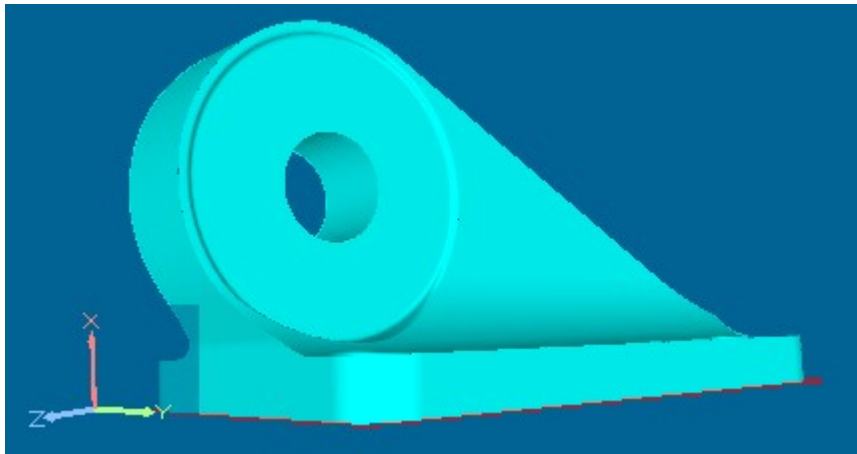

Figure 3. Geometry presentation, when Central (Perspective) projection type is selected
- **Central (Perspective)** - this projection incorporates foreshortening (the size of an object's dimensions along the line of sight are relatively shorter than dimensions across the line of sight) (see Figure 3). Parallel lines in the data may not appear parallel on screen.